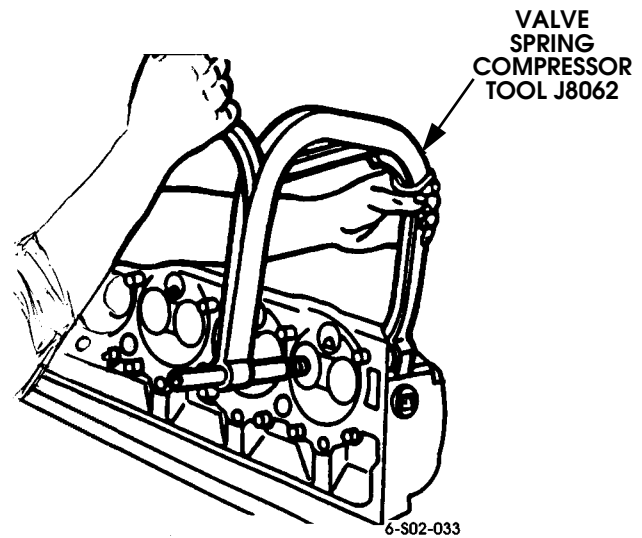

Figure 2-156: Compressing Valve Spring (to Remove Locks)
- a. Compress valve spring with compressor tool J8062 (Figure 2-156).
- f. Compress spring with spring compressor tool (Figure 2-156).